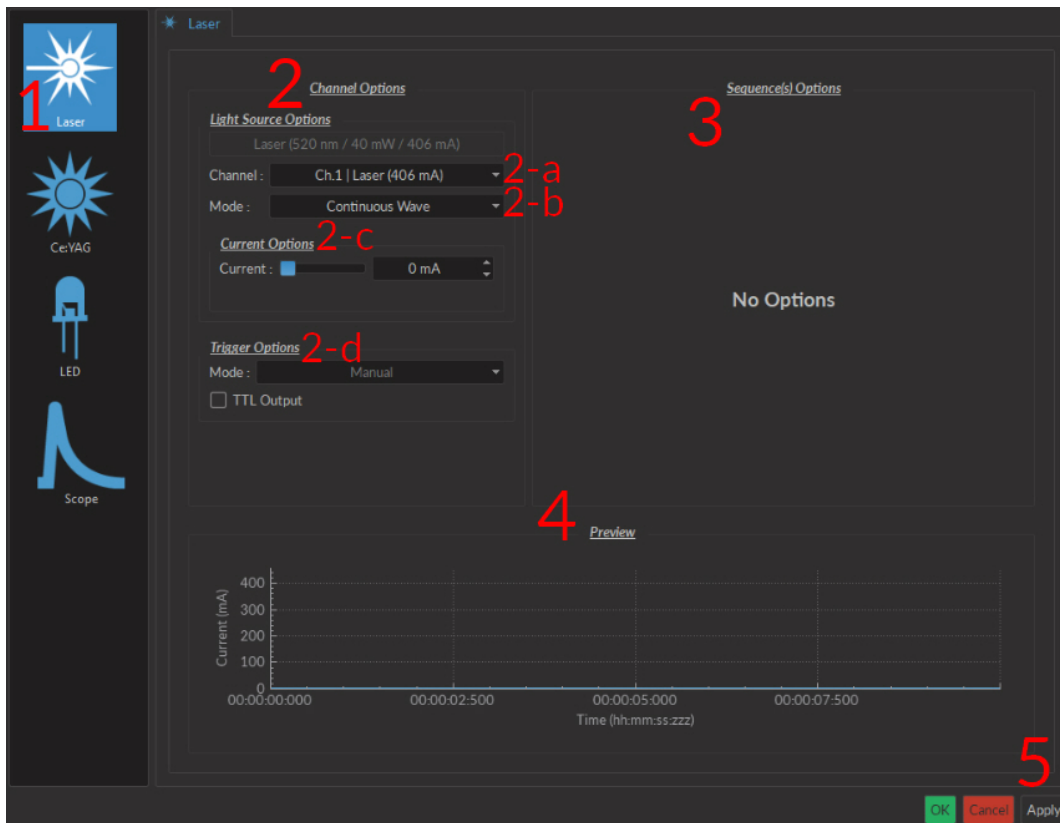

Figure 4.2: Light Source Channel Configuration Window
Each light source driver is separated into a number of **Channels**. Each channel controls a single light source. While each channel can be controlled in **Stand-alone** mode by the driver, additional functions can be accessed for these channels when the driver is connected to the Doric Neuroscience Studio. These functions are used through the **Channel Configuration** window (Fig. 4.2).
1. The **Channel Types** (Fig. 4.2) are displayed on the left side of the window. These include **Laser** light sources, **Ce:YAG** light sources and **LED** light sources, as well as the **Scope** to measure signal using the driver.
2. The **Channel Options** box (Fig. 4.2) includes **Light Source Options** and **Trigger Options** for the given channel.
- a) The **Channel** (Fig. 4.2) drop-down list identifies which driver channel is currently being edited, assuming a driver with multiple channels.
- b) The **Mode** (Fig. 4.2) drop-down list includes each possible driver mode. These are used to control the pulse sequences emitted by the light source. The options related to this mode are detailed with the **Sequence Options**.
- c) The **Current Options** (Fig. 4.2) includes the slider used to control the current sent to the light source.
- d) The **Trigger Options** (Fig. 4.2) allow the selection of a number of trigger modes to activate a pulse sequence.
3. The **Sequence options** box (Fig. 4.2) is where sequence options are defined depending on the mode. The **Continuous wave**, **External TTL** and **External Analog** modes have no additional sequence options.
- The **Preview** box (Fig. 4.2) displays a preview of the chosen sequence while in the **Continuous Wave**, **Square Sequences** and **Complex Sequences** mode.
- The **Apply** button (Fig. 4.2) will generate the defined channel OR update an already configured channel with any changes.